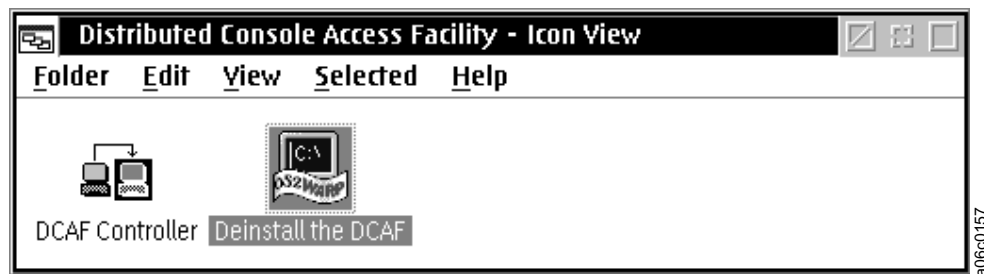

Figure 178. Distributed Console Access Facility - Icon View Window
3. Select the **DCAF Controller** icon in the Distributed Console Access Facility - Icon View window (Figure 178).